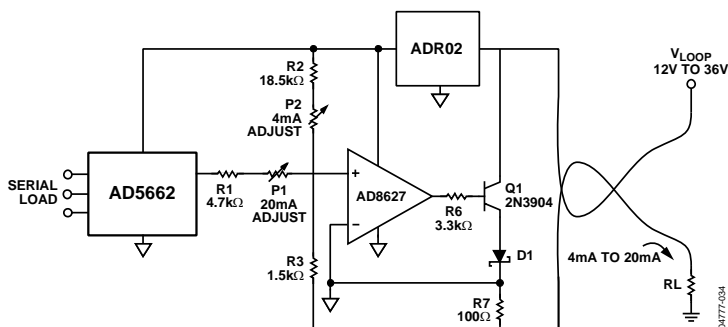

Figure 43. Programmable 4–20 mA Process Controller
A circuit that performs this function is shown in Figure 43. Using the AD5662 as the controller, the circuit provides a programmable output current of 4 mA to 20 mA, proportional to the DAC’s digital code. Biasing for the controller is provided by the ADR02 and requires no external trim for two reasons: (1) the ADR02’s tight initial output voltage tolerance and (2) the low supply current consumption of both the AD8627 and the AD5662. The entire circuit, including opto-couplers, consumes less than 3 mA from the total budget of 4 mA. The AD8627 regulates the output current to satisfy the current summation at the noninverting node of the AD8627.
For the values shown in Figure 43,